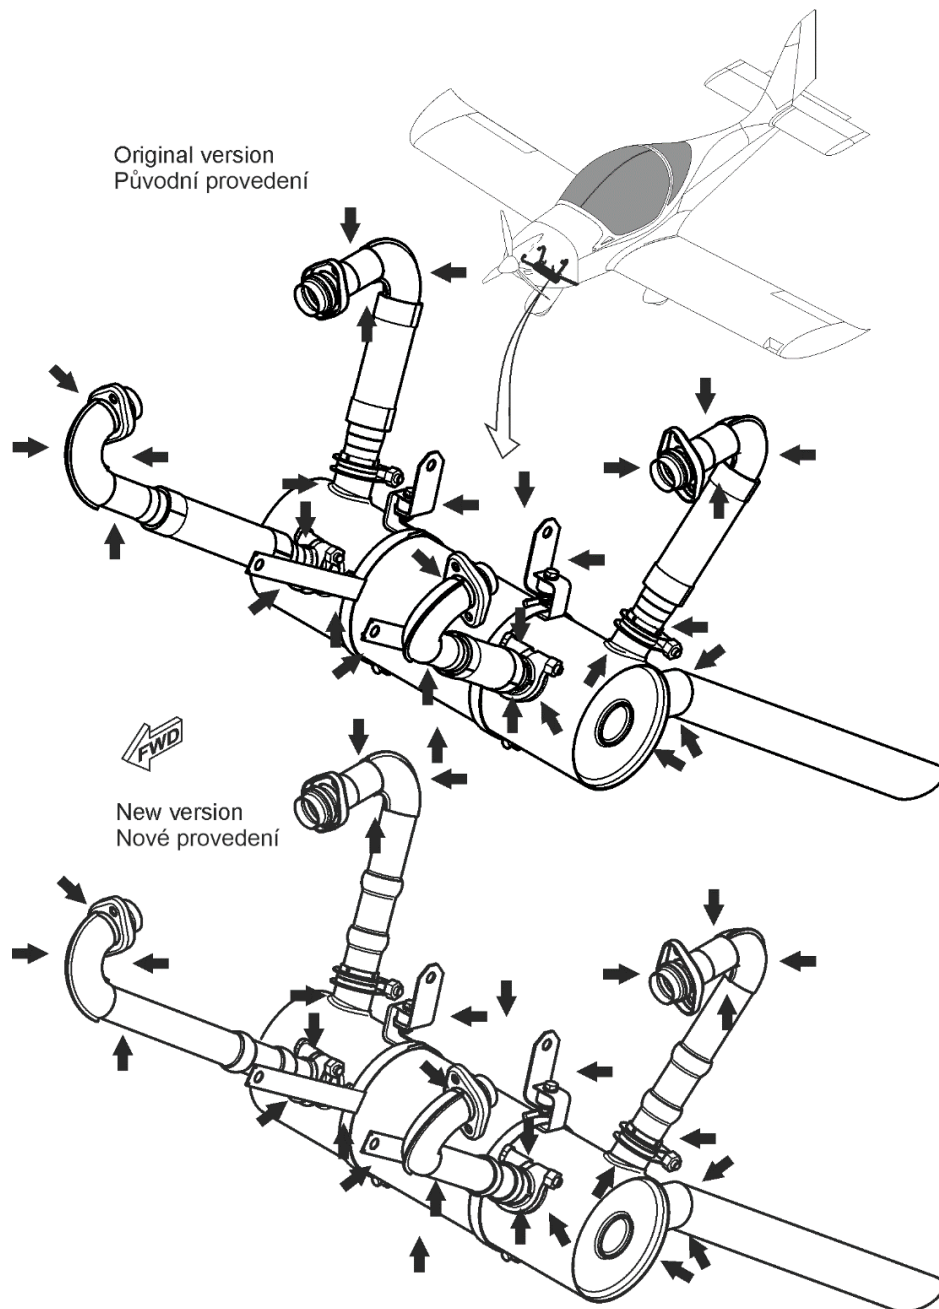

Fig. 1 Checked exhaust system locations
1.3.2 Inspect the entire exhaust system, focusing on the formation of cracks on the individual exhaust manifolds, the outer surface of the muffler and the exhaust outlet pipe – see Fig.1.
Next, inspect the exhaust mounting brackets and consoles – see Fig.1.